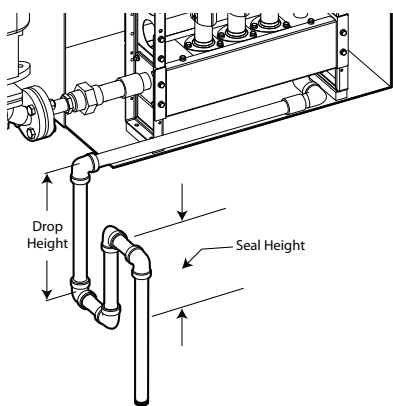

Fig. 7.d
A threaded connection (3/4" male NPT for North American markets and 3/4" male Gas for other markets) is provided for the condensate drains on the headers. If P-traps are used on the drains, as shown in Fig.7.c, the seal height should be sufficient such that the water column creates a pressure at least 500 Pa (50 mm or 2" H2O) greater than the static pressure in the header (PS).
Note: the fittings and pipe for the condensate drain shown in Fig.7.c are not included with the ultimateSAM distributor.